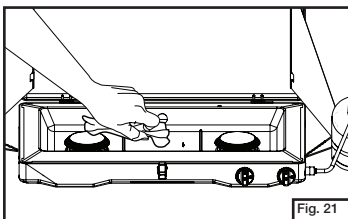

Fig. 21
- Wipe clean with soft cloth and mild dish detergent. Do not use abrasives. (Fig. 21)